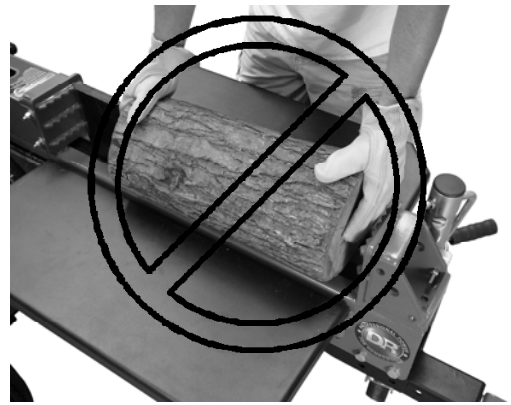

Figure 23
- Do not place your hands on the ends of the log when loading the Log Splitter. This is a very UNSAFE method and could result in injury to your hands (*Figure 23*).